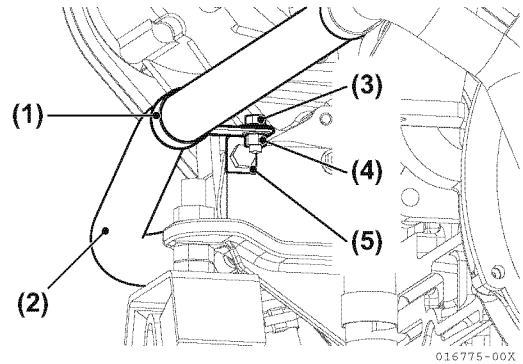

Figure 5-179
- When the 4JH5E is coupled with SD50: For gear case side seawater pipe, fasten the upper side bolt with the bracket. Clamp the pipe with the retainer and attach to bracket (Figure 5-179).